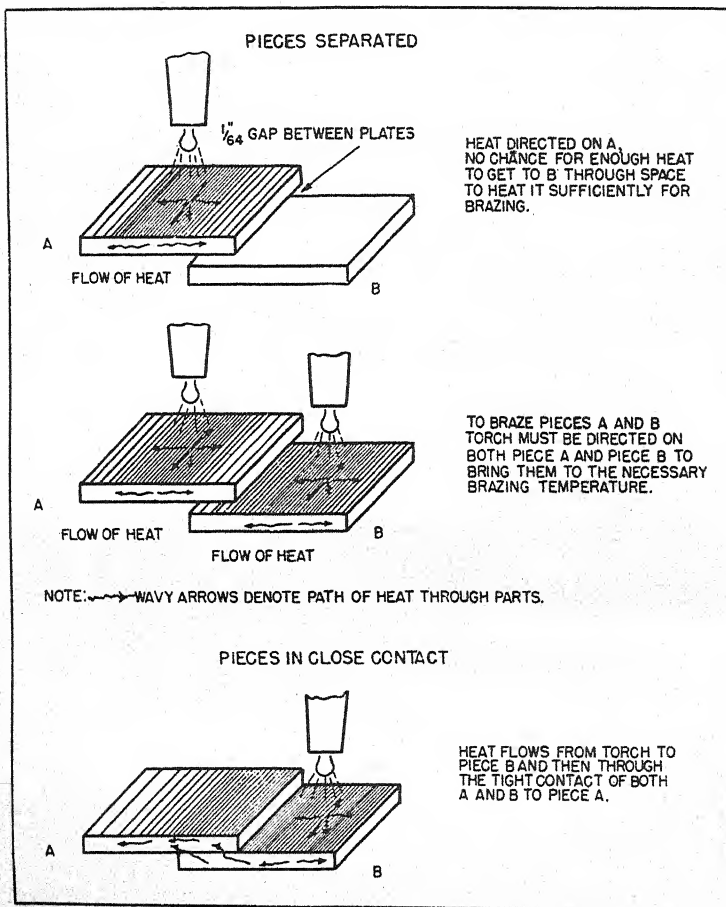

Figure 124. — Flow of heat.
1. Heat always flows from a hotter to a cooler body. Thus, when two pieces are to be joined with a silver alloy, both pieces must be brought to a temperature sufficiently hot to melt the alloy before the alloy will flow onto both. You can heat both pieces independently with a torch if they are separated. If they are touching, you may heat one piece and the heat will be conducted to the cooler piece (see figure 124).